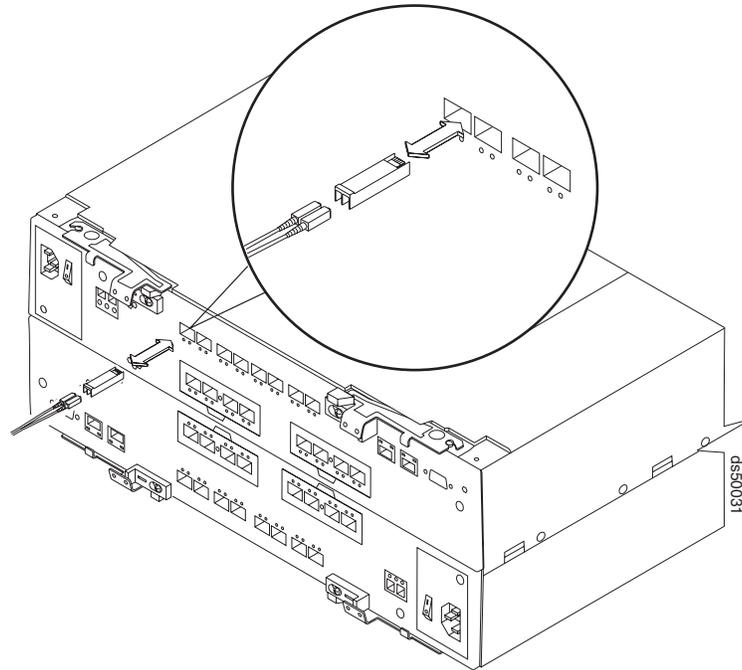

Figure 26. Installing an SFP module and LC-LC cable in a supported DS3950 storage subsystem
2. Connect an LC-LC fibre-optic cable into the SFP module, as shown in Figure 26.
Note: Figure 26 shows a DS5000 Storage Subsystem. The DS5000 Storage Subsystem is shown for illustrative purposes only.